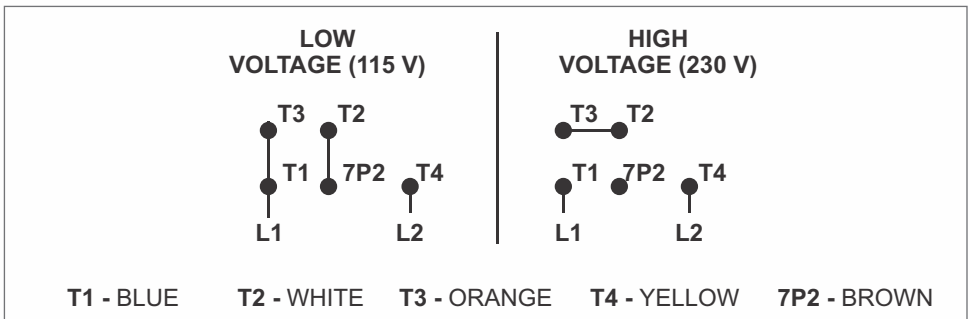

Fig. 3.9.1
- If your supply is **230 V**, configure the cables according to the 230 V wiring diagram(see Fig. 3.9.1)
- If your supply is **115 V**, configure the cables according to the 115 V wiring diagram (see Fig. 3.9.1).